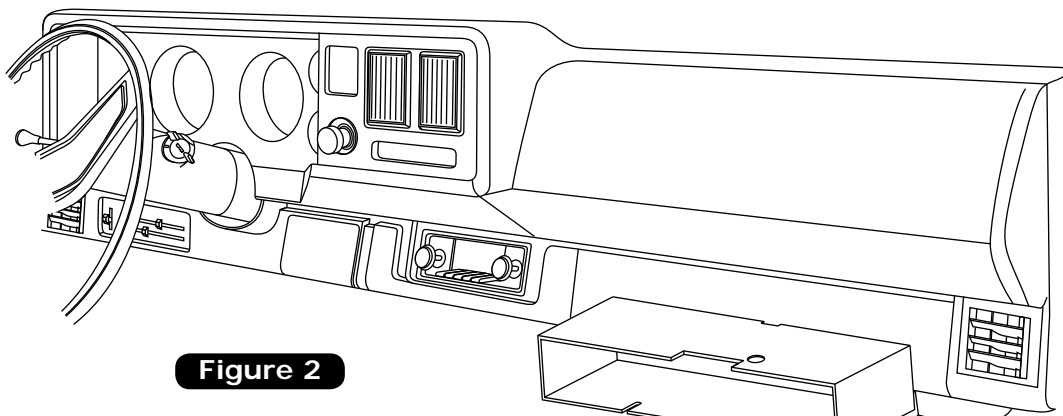

Figure 2
2. Remove the glove box (discard, but retain screws) (See Figure 2, below).